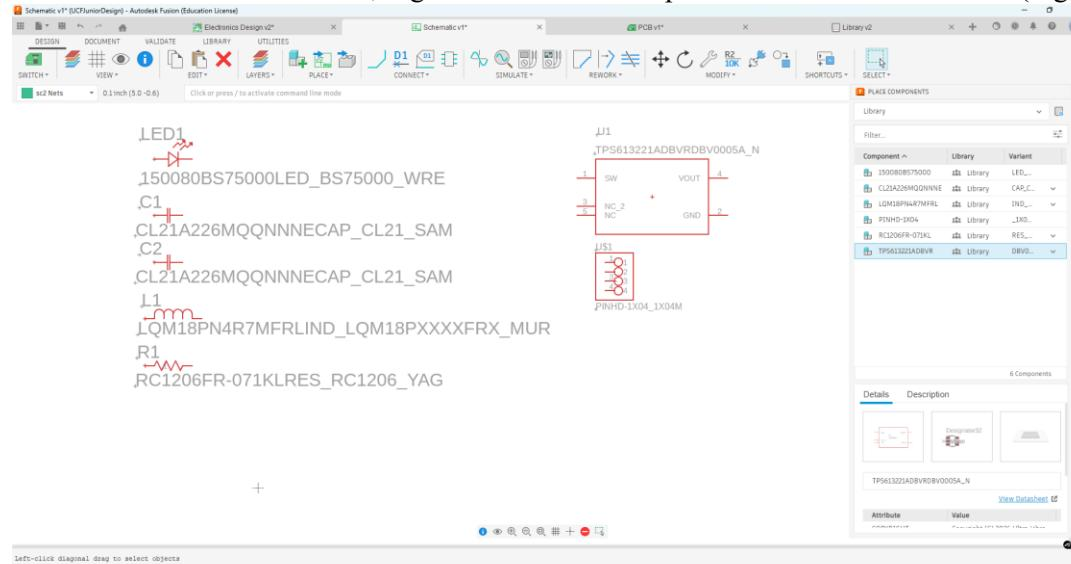

Figure 12: Parts from the project library installed onto the schematic.
3.12: Choose the first variant on each part: the regulator 3.3 Volt, two 22uF capacitors, 4.7uH inductor, 1k ohm resistor, and the LED. Then double click to add to your schematic. You will be guided to the schematic window to place the part. At this point in time choose any location by clicking the mouse and then hit the esc key twice to stop adding additional version of this part. We will organize the parts shortly in the schematic. For the four-pin connector, we will use the one under **Tinkercad** library - **Part: PINHD-1X04**. Add this part to schematic and place it in the schematic. A GND can also be added this way if desired. We recommend the GND in Tutorial – Fusion 360 libraries, Figure 12 shows all six parts located in the schematic (Figure 12).